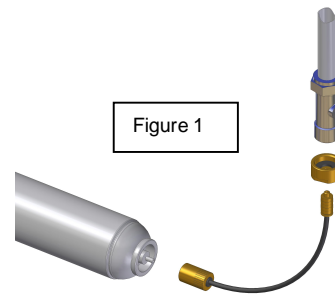

Figure 1
- Connect tool as shown in Figure 1 - **DO NOT OVER TIGHTEN.**